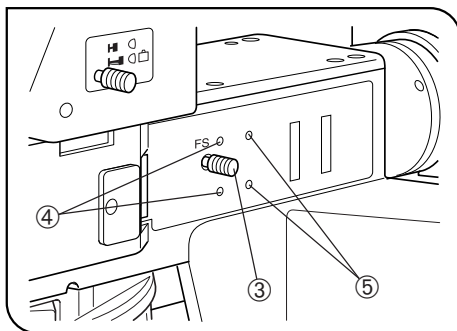

Fig. 2
3. Remove the eyepiece, look into the eyepiece sleeve and press the AS – button ⑦ on the hand switch to set the aperture at around 70%.
4. If the center of the iris diaphragm is deviated, center it by rotating the two AS centering screws (⑤ in Fig. 2) using the Allen screwdriver.